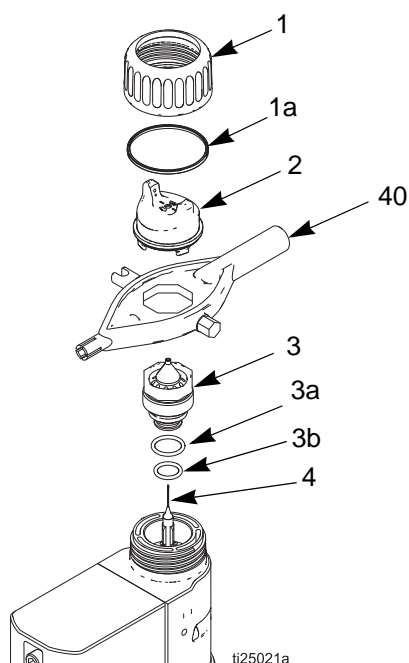

FIG. 30. Air Cap/Nozzle Replacement
2. Remove the retaining ring (1) and air cap (2). See FIG. 30.